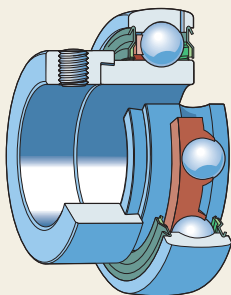

Fig. 13
- are available with an inner ring extended on both sides (fig. 13, bearing series YEL 2)